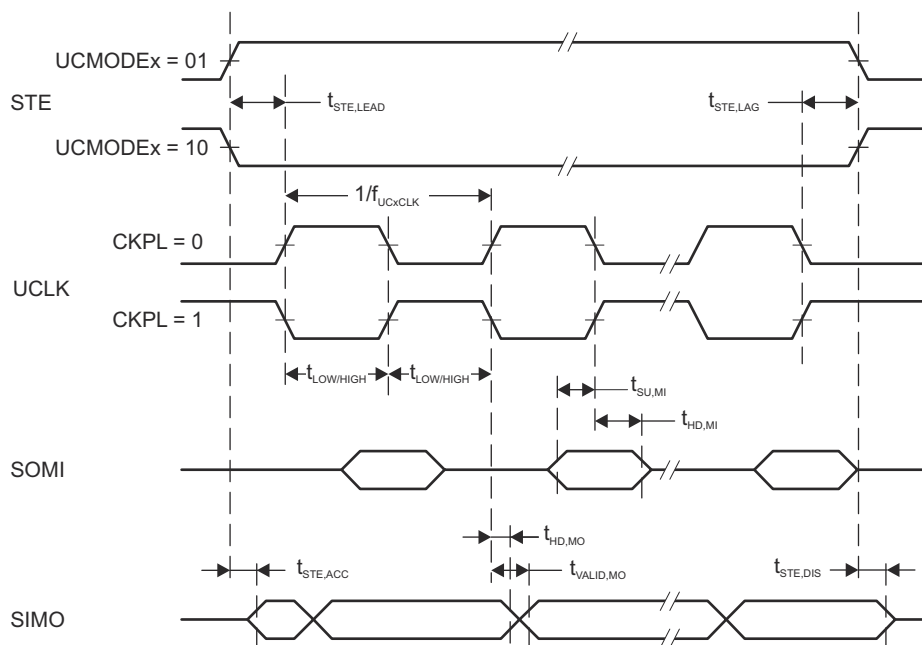
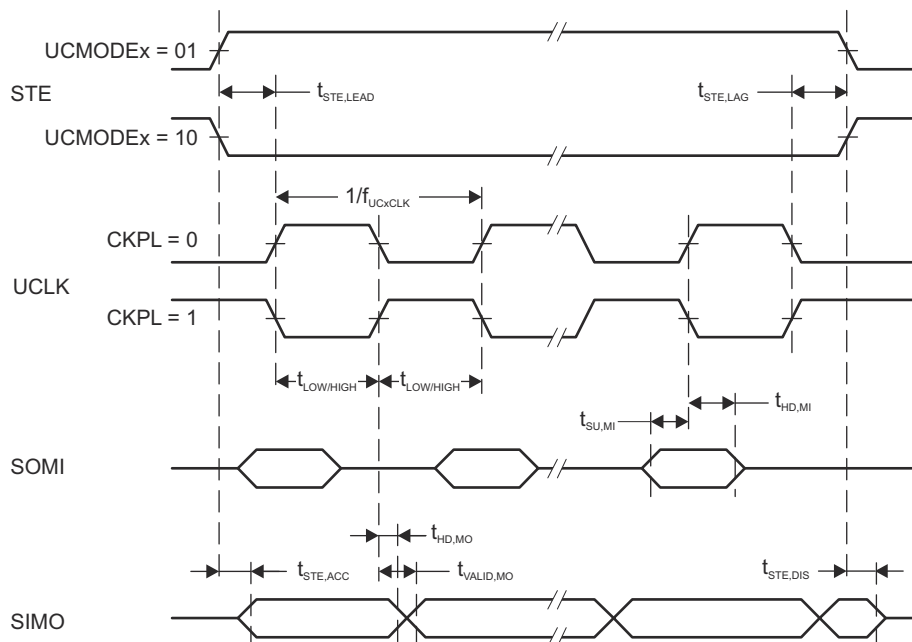

图 8-13. SPI Master Mode, CKPH = 0
图 8-14. SPI Master Mode, CKPH = 1
- (1) f_{UCxCLK} = 1/2t_{LO/HI} with t_{LO/HI} = max(t_{VALID,MO}(eUSCI) + t_{SU,SI}(Slave), t_{SU,MI}(eUSCI) + t_{VALID,SO}(Slave)). For the slave parameters t_{SU,SI}(Slave) and t_{VALID,SO}(Slave), see the SPI parameters of the attached slave.
- (2) Specifies the time to drive the next valid data to the SIMO output after the output changing UCLK clock edge. See the timing diagrams in 图 8-13 and 图 8-14.
- (3) Specifies how long data on the SIMO output is valid after the output changing UCLK clock edge. Negative values indicate that the data on the SIMO output can become invalid before the output changing clock edge observed on UCLK. Refer to the timing diagrams in 图 8-13 and 图 8-14.